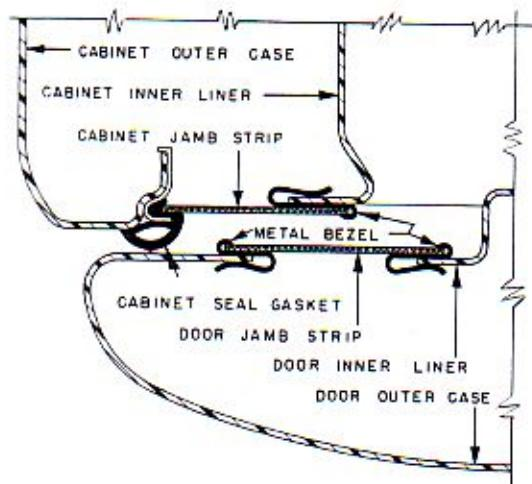

Fig. 261
- The metal bezels have sufficient play so the inner bezel can be forced away from the edge of the strip to release the strip. See Fig. 261.